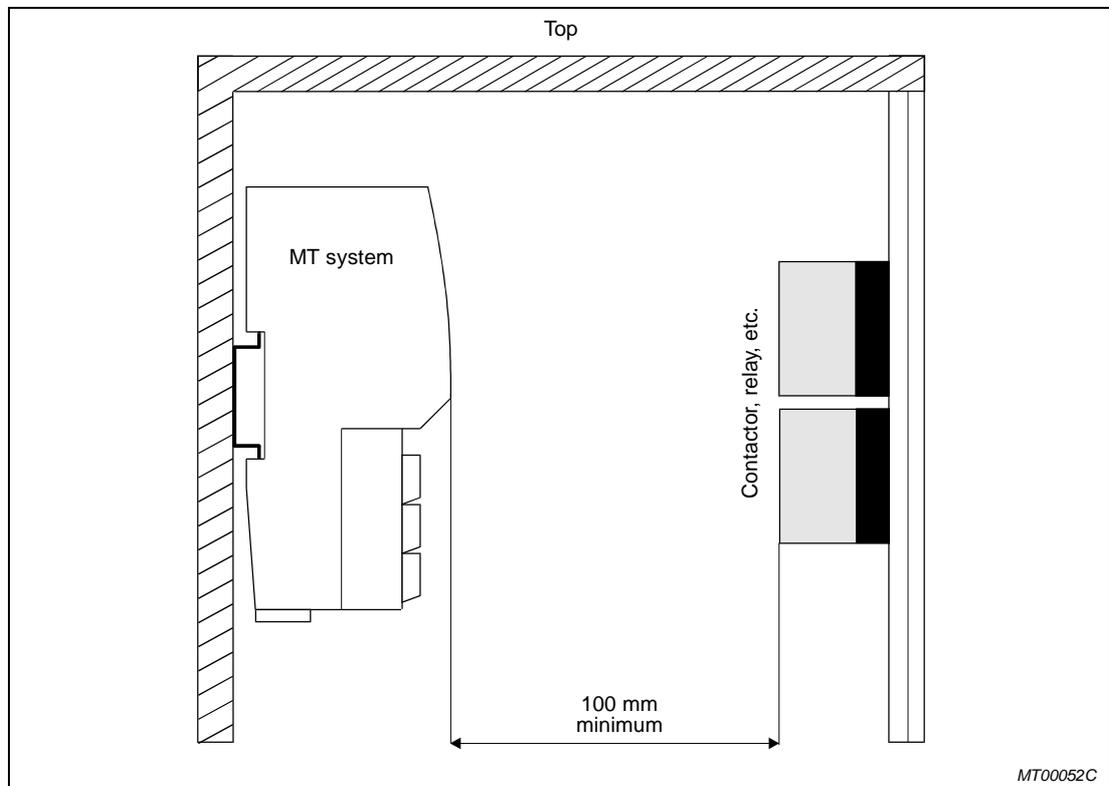

Fig. 5-5: *Opposite arrangement of modules and equipment*
- If an equipment that generates noise or heat is positioned in front of the modules (e.g. mounted on the back side of a cabinet door), allow a clearance of at least 100 mm between the modules and the equipment (see fig. 5-5).